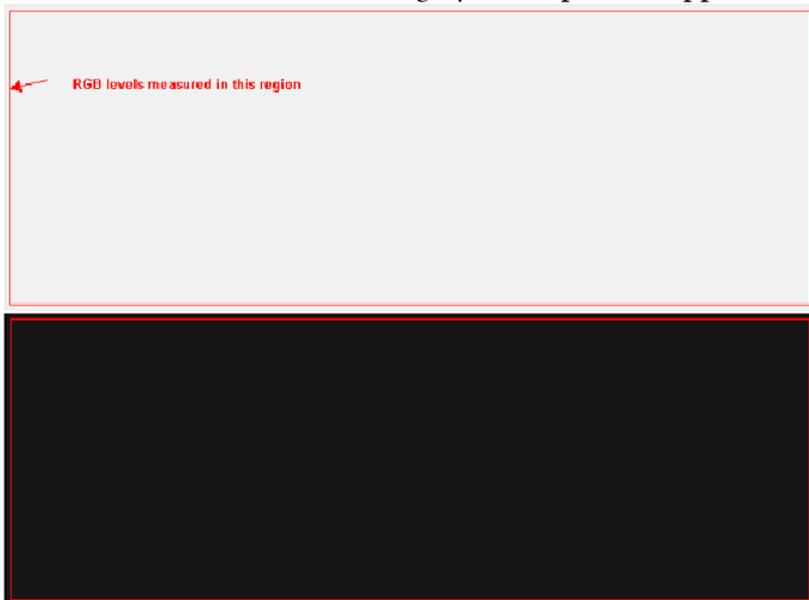

Figure1
4. Pattern: As Figure1 {A near white color (240,240,240) and a near black color(16,16,16)}